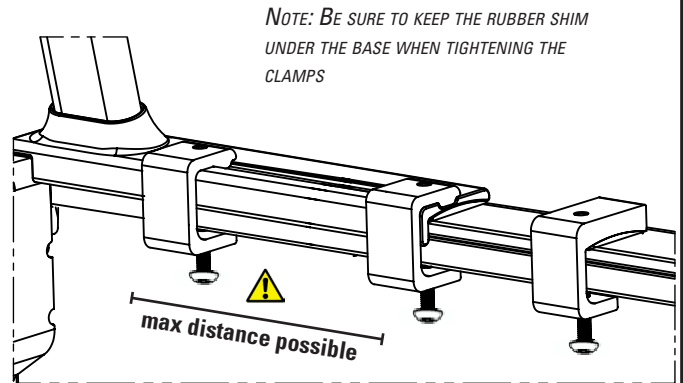

Figure .1
1. Remove the front 2 clamps from either side of the front rack and replace with TB Front Clamps (Figure 1)
5. Place the Rounded Shims on the sidewall of your truck, approximately 2" to 3" behind the upright bases as illustrated (Figure 1) This distance will vary depending on the size of the toolbox